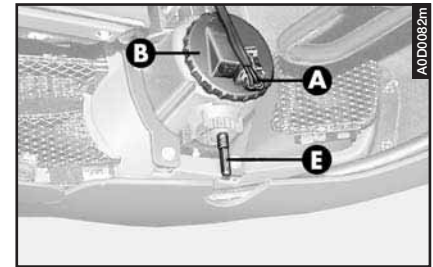

fig. 50
- Disconnect the connector (**A- fig. 50**) from the light unit.
IMPORTANT The screw (E- fig. 50) serves to adjust the beam of the foglights.